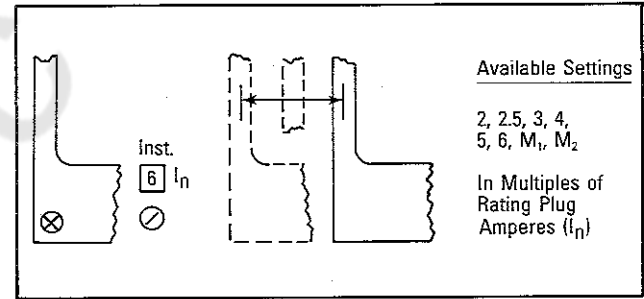

Fig. 4.5 Instantaneous Current Pickup Settings
As illustrated in Fig. 4.5, eight (8) available settings range from 2 to 6 ( $I_n$ ) with two variable settings M1 and M2. These variable settings depend upon the type of circuit breaker in which the trip unit is installed. Specific information on these settings is given in the supplemental instruction leaflet referenced in Sections 9.1 and 9.2 that is supplied with the circuit breaker. Spe-